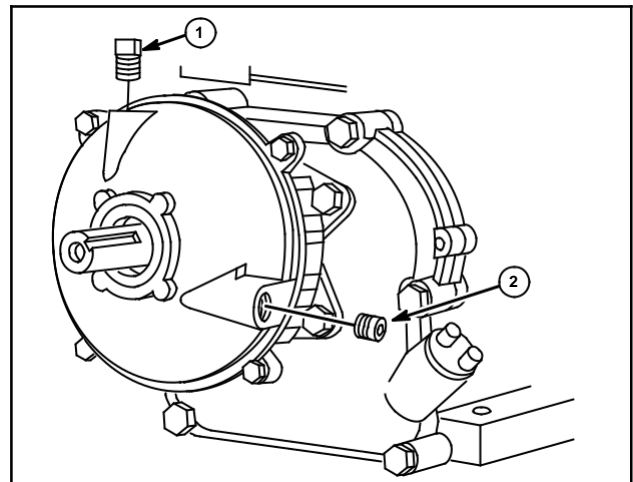

Fig. 32
1. Remove oil level plug (2) and vent plug (1).
4. Install vent plug in top hole and torque to 40 in. lbs. (5 Nm), Fig. 32.